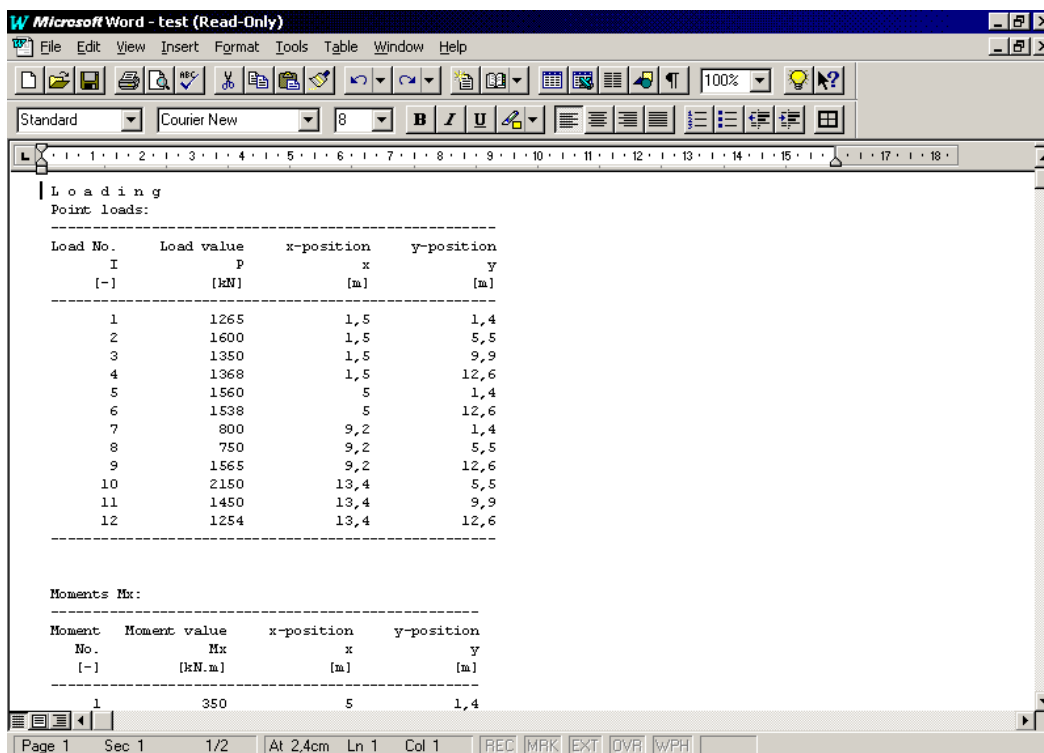

Figure 1-46 Exported data in MS Word
- Choose "Send to Word" from "File" menu if you wish to export the table to a MS Word application, Figure 1-46